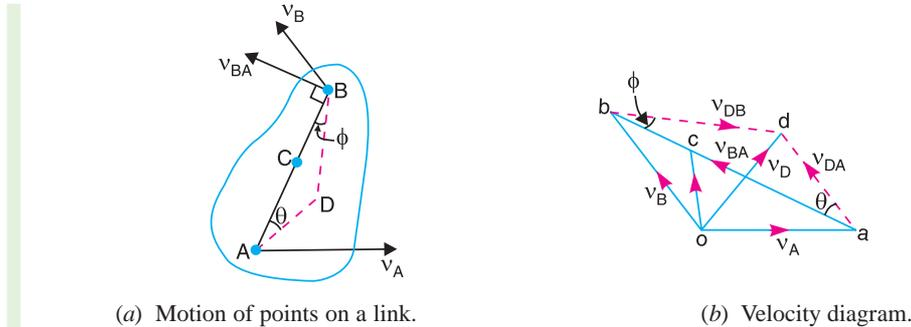

Fig. 7.4
Consider two points  $A$  and  $B$  on a link as shown in Fig. 7.4 (a). Let the absolute velocity of the point  $A$  *i.e.*  $v_A$  is known in magnitude and direction and the absolute velocity of the point  $B$  *i.e.*  $v_B$  is known in direction only. Then the velocity of  $B$  may be determined by drawing the velocity diagram as shown in Fig. 7.4 (b). The velocity diagram is drawn as follows :
3. Through  $a$ , draw a line perpendicular to  $AB$  of Fig. 7.4 (a). This line will represent the velocity of  $B$  with respect to  $A$ , *i.e.*  $v_{BA}$ .
2. The absolute velocity of any point  $C$  on  $AB$  may be determined by dividing vector  $ab$  at  $c$  in the same ratio as  $C$  divides  $AB$  in Fig. 7.4 (a).
3. The absolute velocity of any other point  $D$  outside  $AB$ , as shown in Fig. 7.4 (a), may also be obtained by completing the velocity triangle  $abd$  and similar to triangle  $ABD$ , as shown in Fig. 7.4 (b).